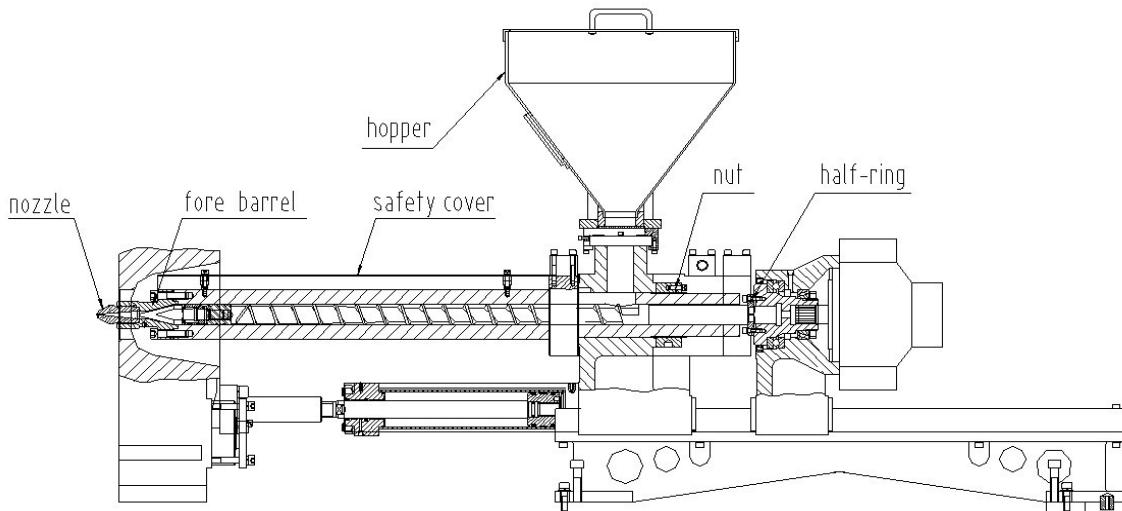

Fig 4-6
The mechanical structure of the injection unit is as Fig.4-6.
- 1) Rewove all the heater bands on the barrel see Fig.4-6;